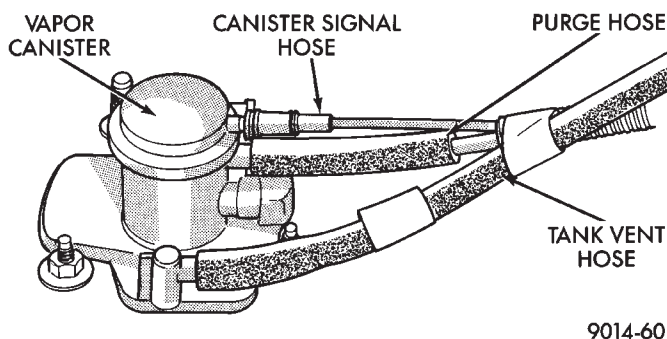

Fig. 5 Vapor Canister
(8) Verify hoses are securely attached to the vapor canister (Fig. 5).